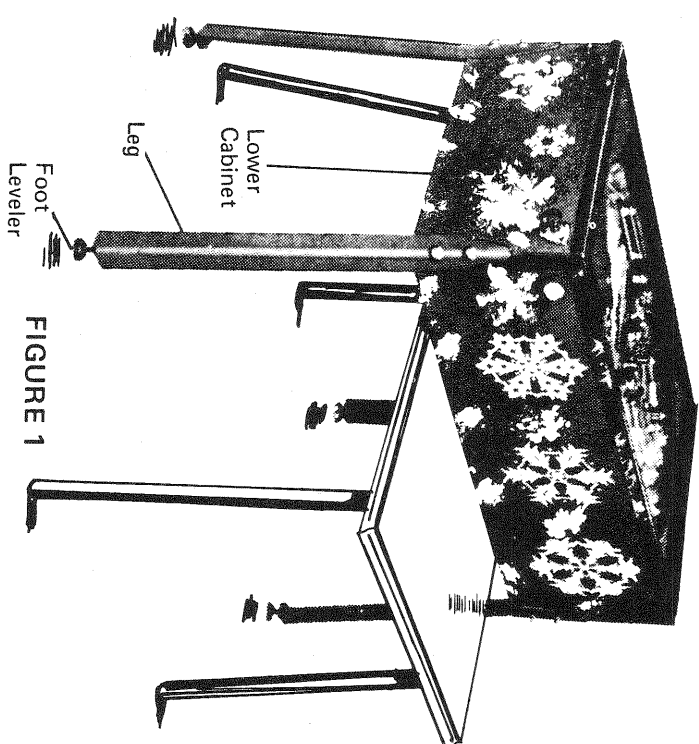

FIGURE 1
1. Position lower cabinet on top of a bar, table or other surface that is at least 28" from floor. (Figure 1).